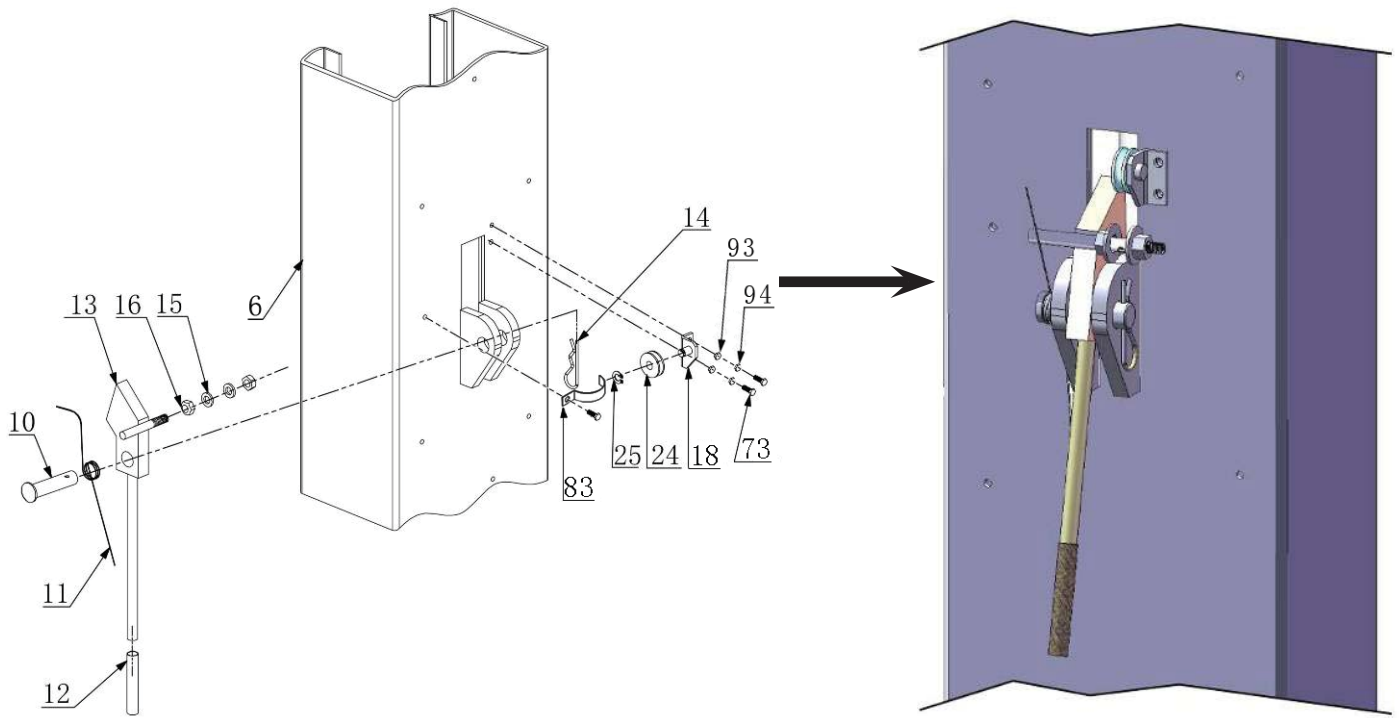
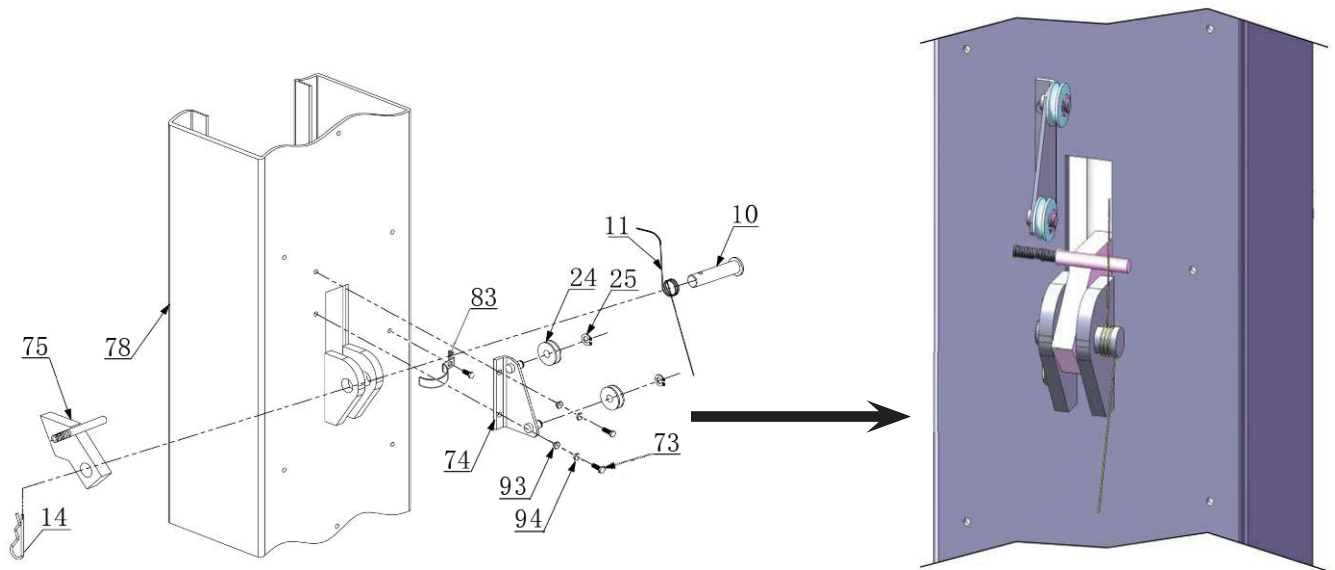

Fig.18 - Power Side Safety Device
Fig. 19 - Offside Safety Device
I. Install Safety Device (See Fig. 18 & Fig. 19)